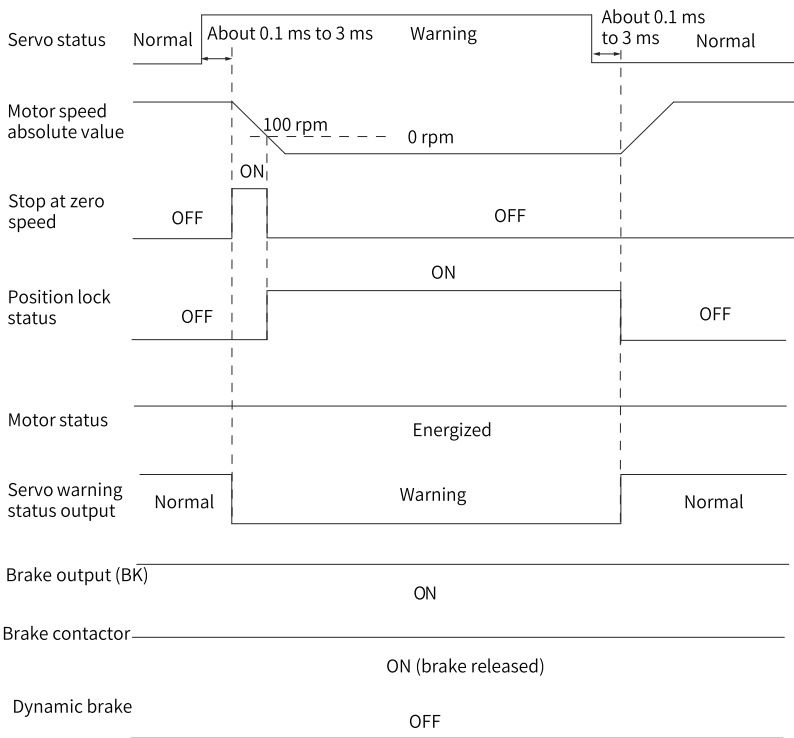

Figure 2-20 Sequence for warnings that cause stop
- When a No. 3 warning occurs on the drive, such as E900.0 (DI emergency braking), E950.0 (Positive limit switch warning), and E952.0 (Negative limit switch warning), the drive stops according to "Figure 2-20 Sequence for warnings that cause stop" on page 69.